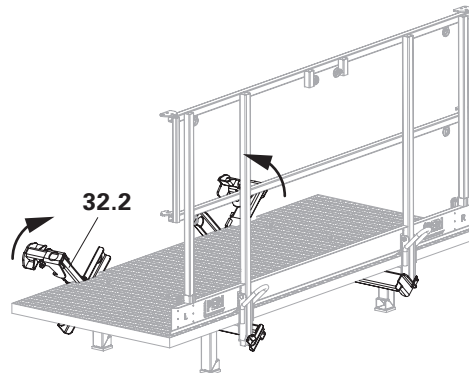
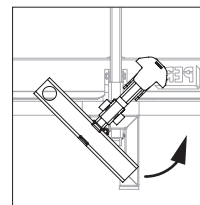

Fig. A13.02
Fig. A13.02b
4. Fold suspension beam upwards (**32.2**). Ensure that the sliding sleeve (**32.3**) is at the top. (Fig. A13.02 – Fig. A13.02b)